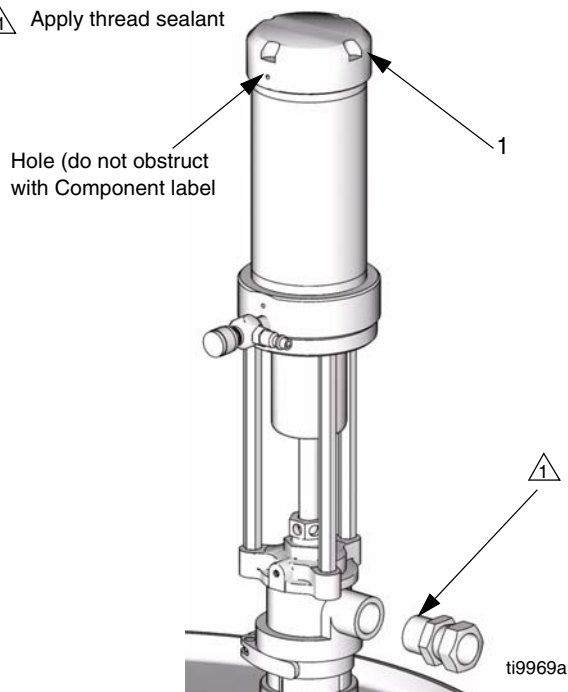
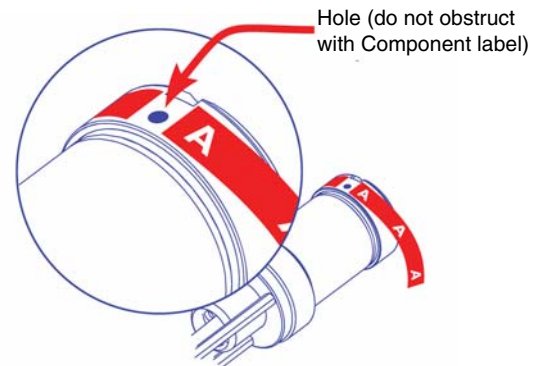

FIG. 5
FIG. 6
2. Apply thread sealant to the male outlet fitting (not supplied) and insert into the outlet port. See FIG. 5.
3. When applying component labels (70) to pump cap (1) make sure you do not cover the hole in the cap. Use the "A" label for the ISO pump and the "B" label for the resin pump. See FIG. 5 and FIG. 6.